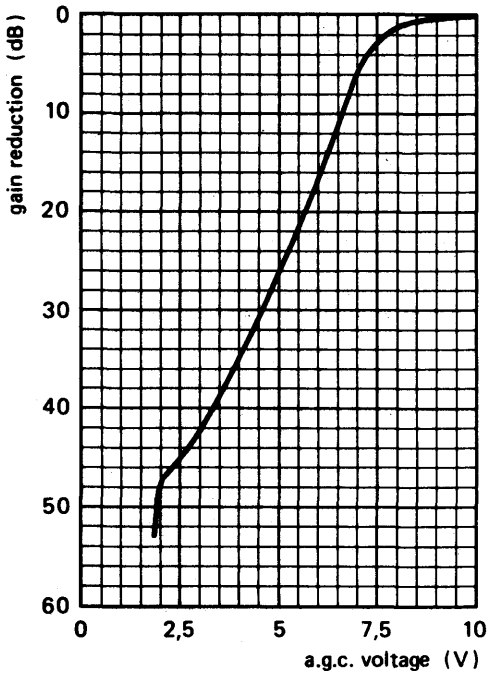

Fig. 4 Typical a.g.c. characteristic, low v.h.f. band.
A.G.C. voltage (Figs 4, 5 and 6)